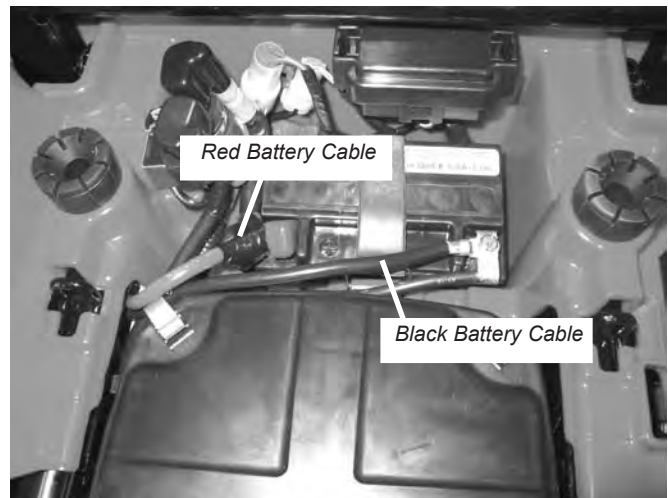

Figure 30 Battery Cover
- c. Attach the red wire to the red contactor post and battery positive terminal, figure 30. Attach the black wire to the black contactor post and battery negative terminal, figure 30. Reposition the protective boot over the positive battery terminal.